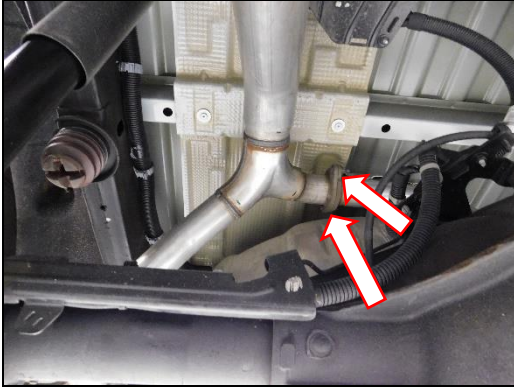
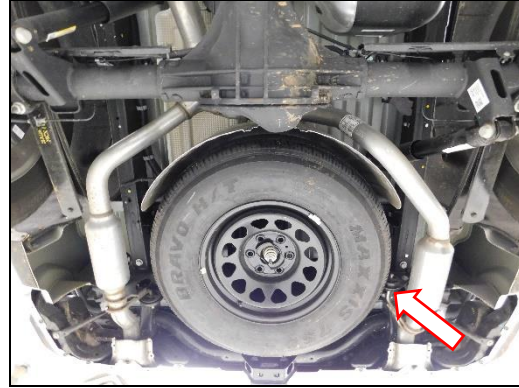

Figure 1
Figure 2
4. Remove (x2) nuts and disconnect the driver's side tailpipe from the exhaust flange (**Figure 1**). Remove (x1) bolt and (x1) rubber isolator mount securing the driver's side tailpipe (**Figure 2**). Now, remove the driver's side tailpipe.